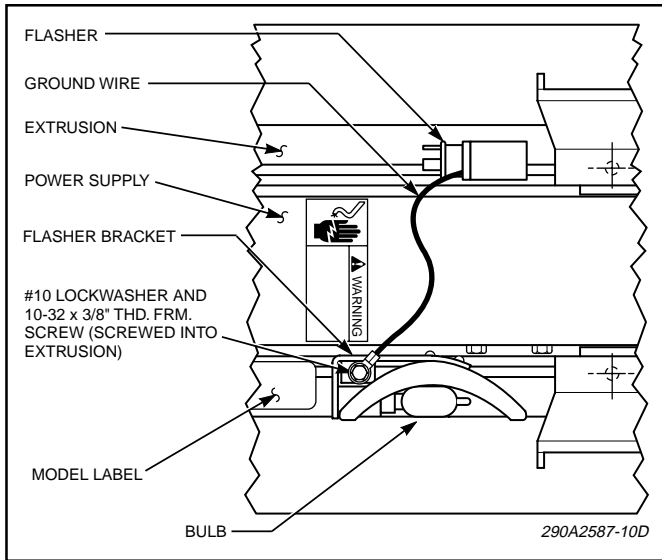

Figure 1.
3. Position the reflector assembly at the selected location facing the front or rear as required. Temporarily install the dome and ensure that the reflector is aligned with the center of the dome insert. Remove the dome and secure the reflector assembly to the extrusion with the #10 thread-forming screw and lockwasher (see figure 1). Repeat for the other side.
4. Locate the proper position for mounting the supplied flasher (see figure 1). Remove the backing from one side of the adhesive pad (supplied) and affix the pad to the flasher. Remove the backing from the other side of the adhesive pad. Affix the flasher and pad in the desired position. To ensure a good electrical ground, attach the ground wire from the flasher to the extrusion using the #10 screw and lockwasher used to mount the reflector (see figure 1).